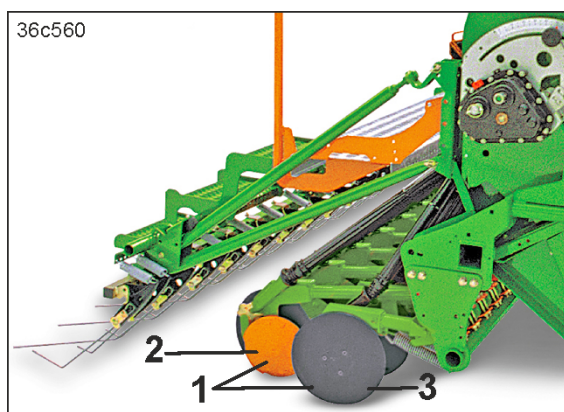

Fig. 54
The RoTeC Control coulter (Fig. 54/1) is used for seed placement on ploughed or mulched soil, even with large quantities of straw and plant residues.
Due to the support of the coulter on the depth control disc / wheel (Fig. 54/2) and the high coulter pressure, the coulter runs very smoothly and accurately maintains the seed placement depth.
- cleaning the rear side of the steel disc (Fig. 54/3).